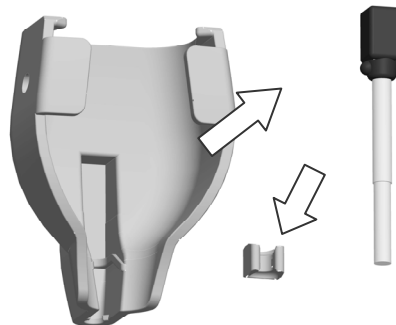

Fig. 7 How to release the Magnetic sensor
- b) Release the magnetic sensor from the magnetic sensor attachment as shown in Fig. 7 and release the spacer for EZU-RV2S from the magnetic sensor.